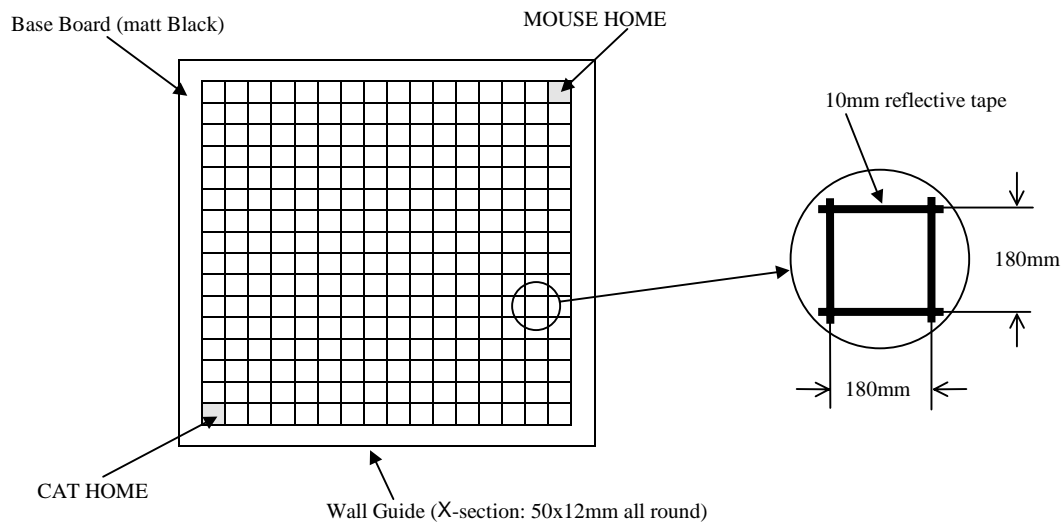

Figure 1: Cat and Mouse - The Scavengers' Terrain
- 3.4 The tolerances of the domain platform will be within the specifications specified in Figure 1.